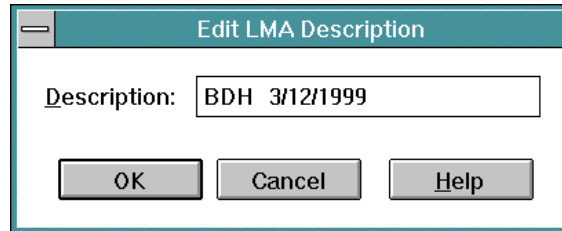

Figure 157. *Edit LMA Description Dialog Box*
6. When the installation is complete, the *Edit LMA Description* dialog box appears (Figure 157). Remove the diskette and store it in a secure location.